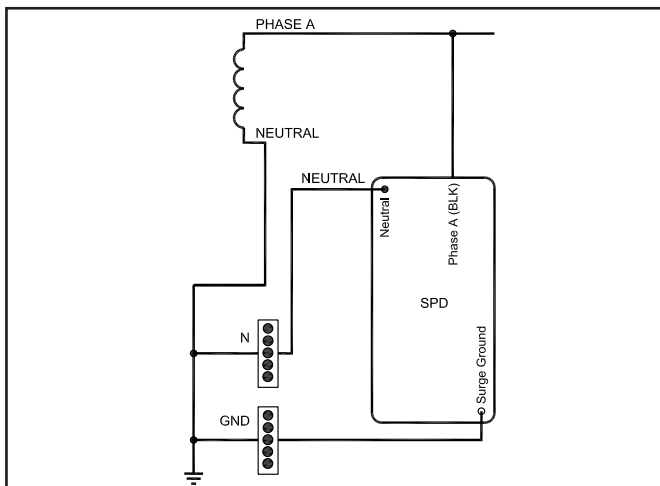
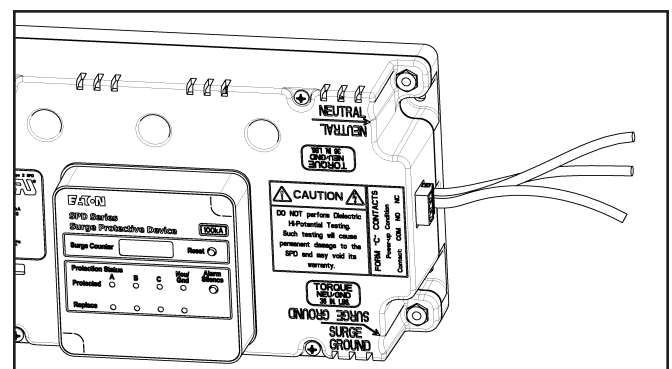

Figure 6. Wiring - Single Phase Units (230 L)
Figure 14. Phase Connections
- Select the correct wiring diagram for the SPD you are installing. You must refer to this diagram while wiring the SPD. See Figures 6, 7, 8, and 9, on page 4.
- Connect Phase wire to circuit breaker. NEC requires that conductors to a surge device be protected by an overcurrent protection device. The cables on the SPD are #10 AWG, therefore would require a 30A 3-pole breaker. See Figure 14, and the wiring diagrams shown in Figures 6, 7, 8 and 9.
8. The SPD (Standard and Standard with Surge Counter models) also has a connection available for remote monitoring of the Form C relay contacts. See Figure 14. This is a green connector located on the side of the SPD. To make the connection, remove the green connector and install the remote monitor leads (connector supports 12-24 AWG wire). Fasten the remote monitoring wires to the N.O., N.C. and COM connection points per the label on the front of the SPD. Contacts are rated: 150 Vac or 125 Vdc at 1A. Follow all national, state and local electrical codes. With wiring complete, plug the green connector into the SPD.